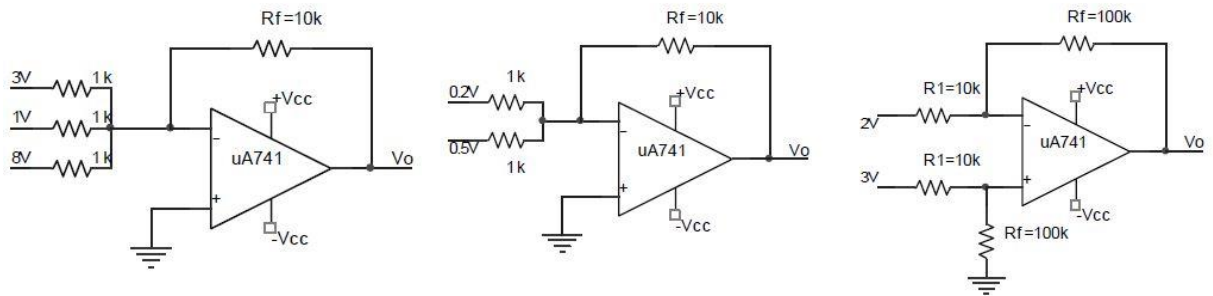

Figure 3
4. Determine the output voltage of each amplifier in Figure 3.